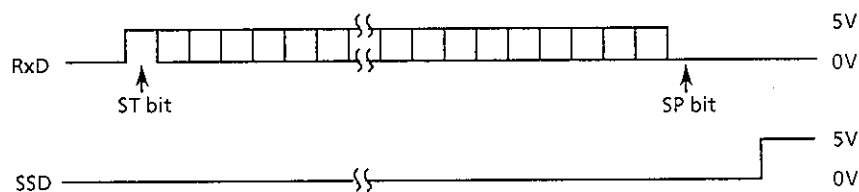

Figure E-3-4
• Yes Is RxD in Q3 as shown in Figure E-3-4?
② During serial interface reception, some print data is skipped or the printer does not operate.
• Are RxD and S/D in Q3 as shown in Figure E-3-4?